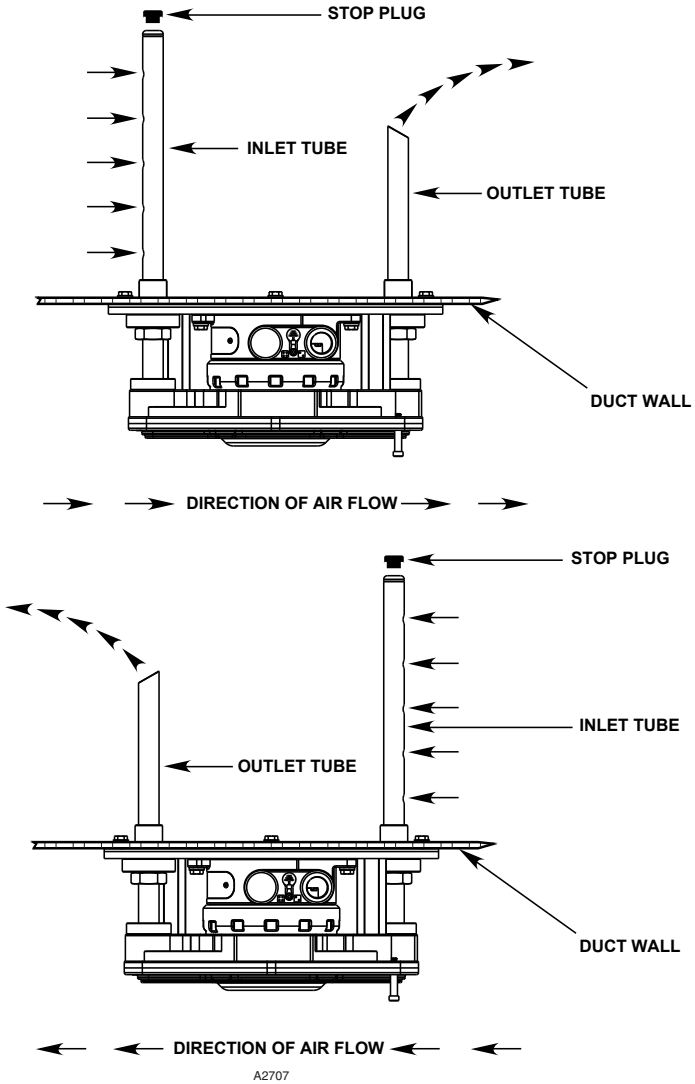

Figure 2—Tube position and orientation
Detectors can be mounted in the supply system downstream of the filters, or in the return system at the point of entry into a common return duct (Figure 2). Whenever possible, detectors that are mounted on a return duct should be at a distance equivalent to six duct widths from any duct openings, sharp bends, branch connections, or deflection plates. For additional information regarding the location and spacing of duct smoke detectors, refer to the National Fire Protection Association (NFPA) Standard 90A, Installation of Air Conditioning and Ventilation Systems and NFPA Standard 72 for Automatic Fire Detectors or your local codes.
*To ensure proper operation of the sampling tubes, observe proper inlet and outlet tube position and orientation as illustrated in Figure 2.*
*The holes in the inlet tube must face the air flow in the duct (upstream). See Figure 2.*